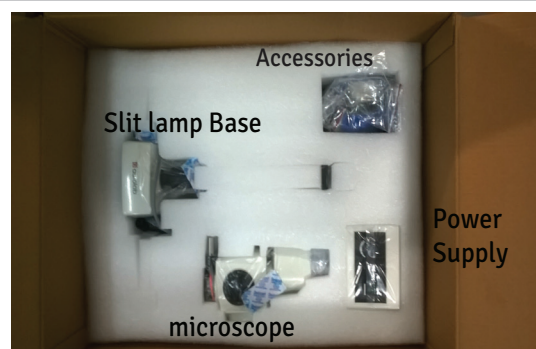

Figure- 5 Microscope, Base, Power Supply & Accessories
7. Open the box marked as “Microscope Assembly”. Remove the microscope Assembly, Slit Lamp Assembly, Power supply and Accessories. Refer to Figure-5.